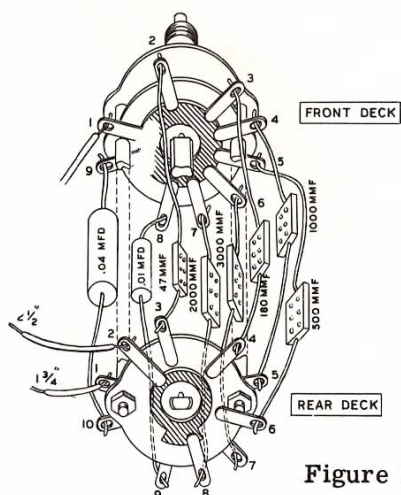

Figure 10
- (✓) Identify the low-frequency cutoff selector switch which has nine contact lugs on the front deck and ten lugs on the rear deck. This switch is shown in Figure 10 with the capacitors installed. Each lug on the front deck, as well as each lug on the rear deck, has been assigned an identifying number. Carefully compare the switch with Figure 10 so that you will have no difficulty in identifying any of the lugs. Remember that any mistakes made in wiring the capacitors to the switch will be quite difficult to correct after the connections have been soldered. The capacitors in the Figure are shown widely separated for clarity. On the actual switch, all leads should be perfectly straight and no longer than necessary to make the connections. Otherwise, it may be difficult to place the completed switch in the chassis. The capacitors should be positioned as shown in Figure 11 like the spokes of a wheel. In addition, they should be approximately centered between the front and rear switch decks.